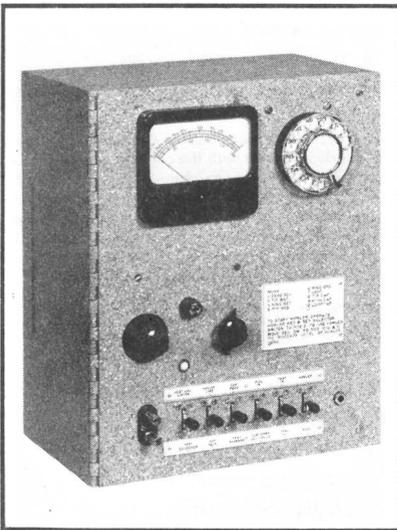

FIGURE 1. Wire Chief's Test Set, Type B
1.01 This practice provides the description of the S-C Wire Chief's Test Set, Type B, which is used to assist in the testing and troubleshooting of inside and outside plant equipment associated with a dial office. See Figure 1.
a. S-C Part No. 419086-018 is supplied for use with a CDO (community dial office) test selector and is wired in accordance with Figures 1, 3, and 7 of circuit diagram S-419086 (see Figure 2, Sheets 1 and 2, foldouts).
b. S-C Part No. 419086-028 is used with an MDO (main dial office) test selector and is wired as shown in Figures 1, 2, and 3 of circuit diagram S-419086 (see Figure 2, Sheets 1 and 2, foldouts).
2.03 Physical Characteristics: The test set is housed in a wooden cabinet with the controls mounted on a hinged metal front panel (see Figure 1), and the assembly is finished with a stone gray multicolored lacquer. Mounting holes drilled in the cabinet rear panel allow for mounting on the end of a main distributing frame, in an equipment bay, or on a wall. Dimensions of the test set are: